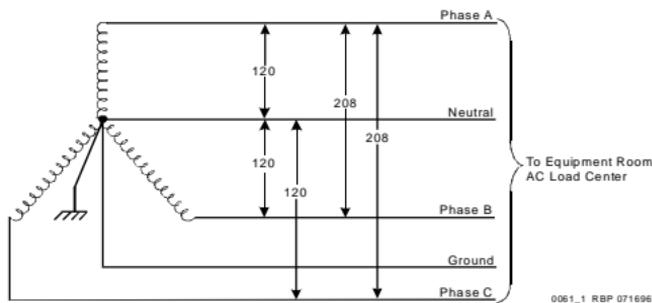

Figure 16. Three Phase, 4-Wire, 120/208 VAC, 60 Hz Source
- Three-phase, 4-wire, 120/208 VAC supplying 208 VAC. See Figure 16. This source has 2 hot wires and 1 ground wire.